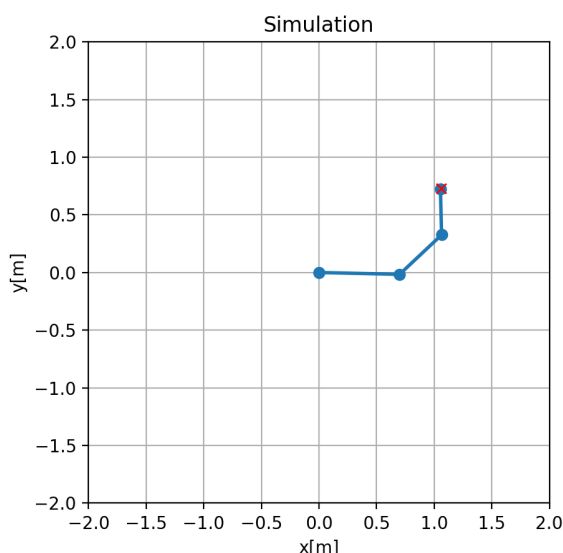

Fig 1. Simulation of the manipulator, including end-effector goal.
- 3) Plot presenting the visualisation of the robot structure in motion (see Fig. 1).